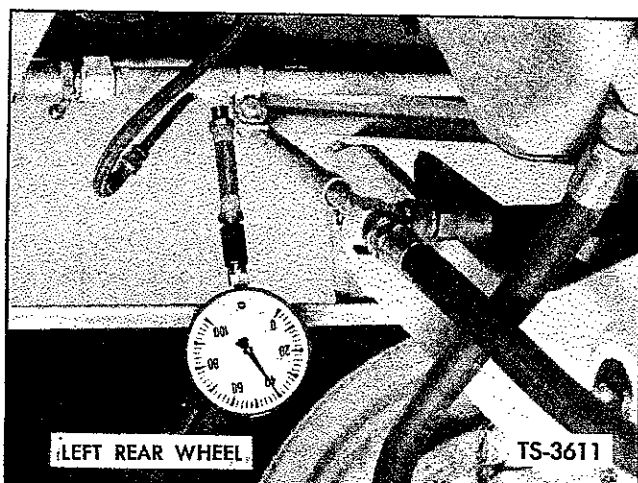

Fig. 39. Check Pressure — Oil Cooler IN
1. Install tachometer on engine. Install gauges at pressure ports on inlet and outlet piping to oil cooler as shown in Figures 39 and 40.